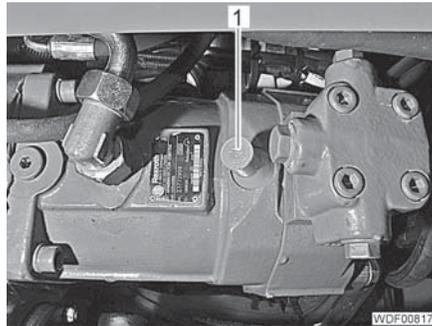
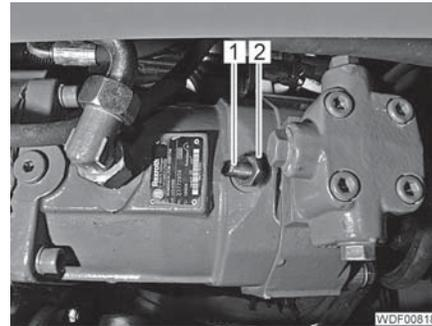

Fig. 18 Cover
Fig. 19 Adjustment screw
- ▷ The cap (Fig. 18,1) serves as a lead seal.
- Remove the cap (Fig. 18,1).
- Undo the nut (Fig. 19,2).
- Adjust the driving speed at the screw (Fig. 19,1):
- Tighten the nut (Fig. 19,2).
- Put a new cap (Fig. 18,1) on the screw (Fig. 19,1).